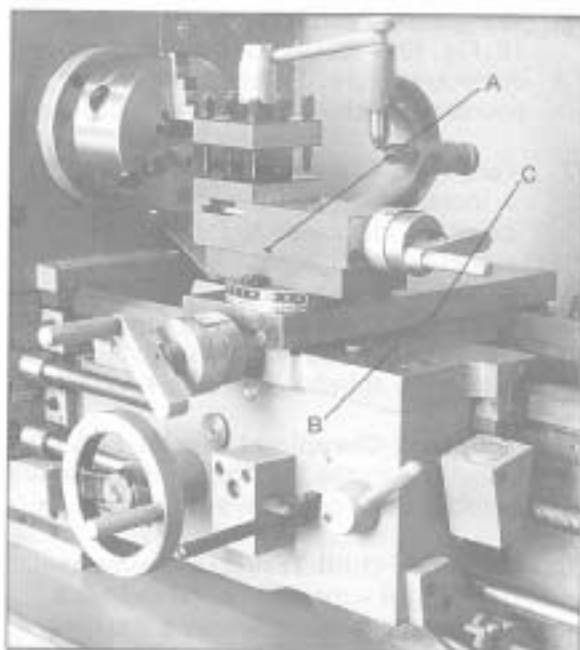

Fig. 11
9. **Compound Rest Lock (A, Fig. 11)** – set screw located on side of compound rest. Turn clockwise to lock and counter-clockwise to unlock.
10. **Carriage Lock (B, Fig. 11)** – hex socket cap screw located on top rear of carriage body. Turn clockwise and tighten to lock. Turn counter-clockwise and loosen to unlock. **Caution:** carriage lock screw must be unlocked before engaging automatic feeds or damage to lathe may occur.
11. **Cross Slide Lock (C, Fig. 11)** – set screw located on side of cross slide body. Turn clockwise and tighten to lock. Turn counter – clockwise and loosen to unlock. **Caution:** cross slide lock screw must be unlocked before engaging automatic feeds or damage to the lathe may occur.